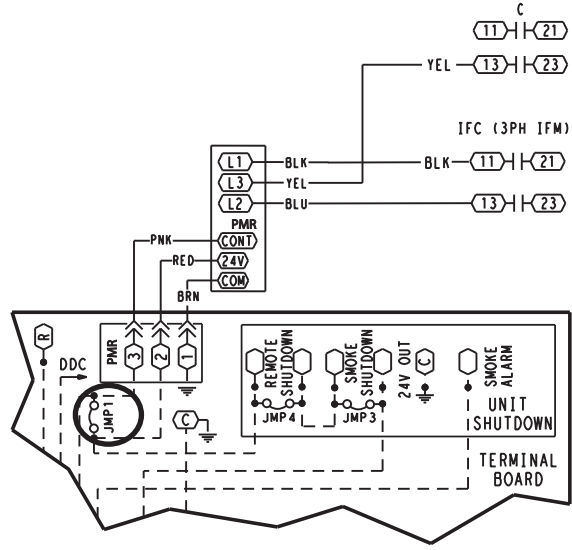

Fig. 6 - Wiring Diagram
wire to terminal “11” and the blue wire to terminal “13.” On the compressor contactor (C), (C1) or (C2), connect the yellow wire to terminal “13.” (See Fig. 6.)